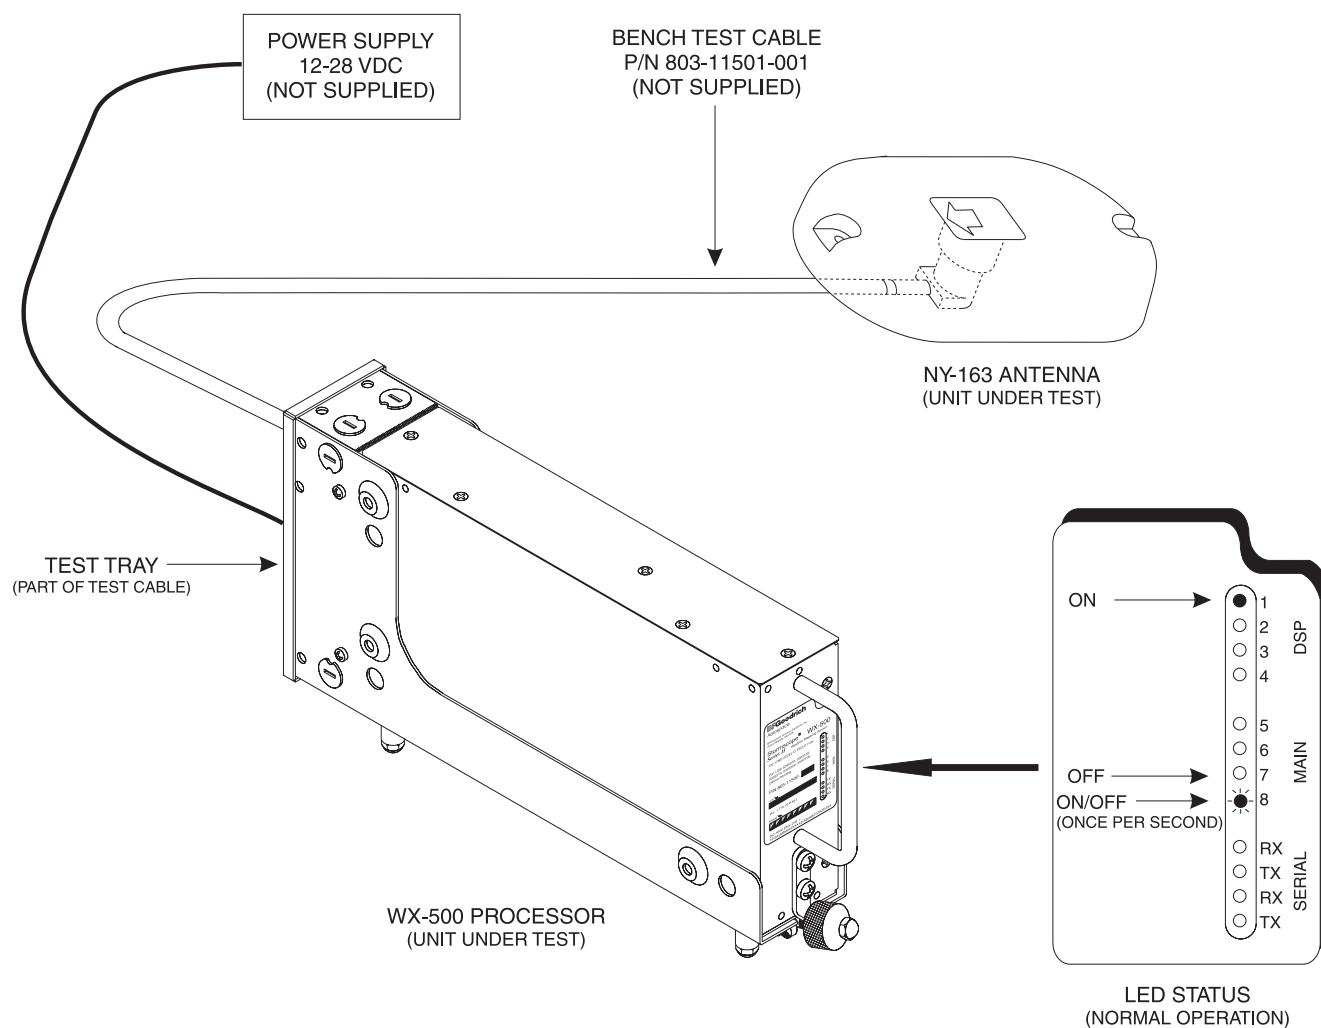

Figure. 2-2 Test Setup
1. Connect the equipment as shown in figure 2-2.